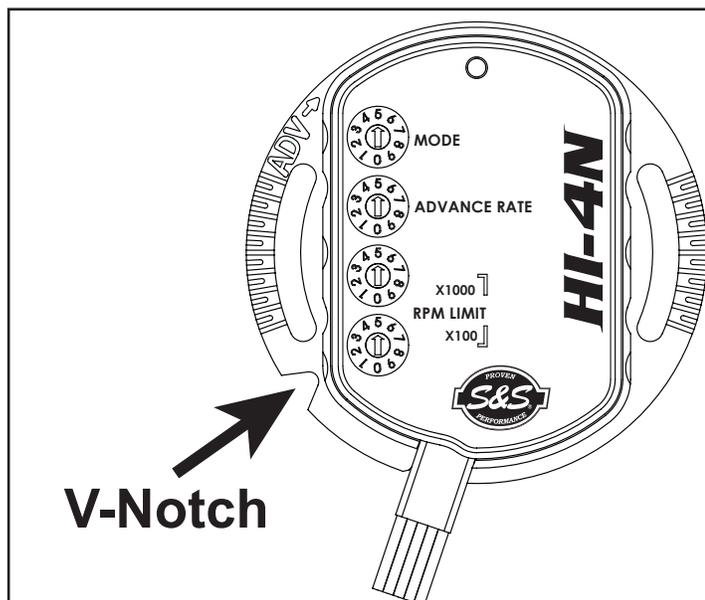

Figure 5
4. Note location of breaker plate. There is a V-notch (**Figure 5**) in the breaker plate used for alignment. When you install the HI-4N, align the V-notch in the same location. This should set the timing close
4. Note location of timer plate. There is a V-notch (**Figure 5**) in the timer plate used for alignment. When you install the HI-4N, align the V-notch in the same location. This should set the timing close enough to start the engine. Remove and save the two standoffs and washers. Remove the sensor, shield, timer plate, trigger rotor, and advance assembly.
- Note location of sensor plate. There is a V-notch in the sensor plate used for alignment. **See Figure 5.** When you install the HI-4N, you should align the V notch in the same location. This should set the timing close enough to start the engine. Remove and save the two standoffs and washers. Remove the sensor plate.
Below is a description of the function for each switch. Refer to the **Figure 5** to locate rotary switches for the following functions.
The top, "X1000" switch adjusts the rev limit in 1000 RPM increments and the "X100" switch adjusts the rev limit in 100 RPM increments. The rev limit on the HI-4N shown in **Figure 5** is set to 5500 RPM.